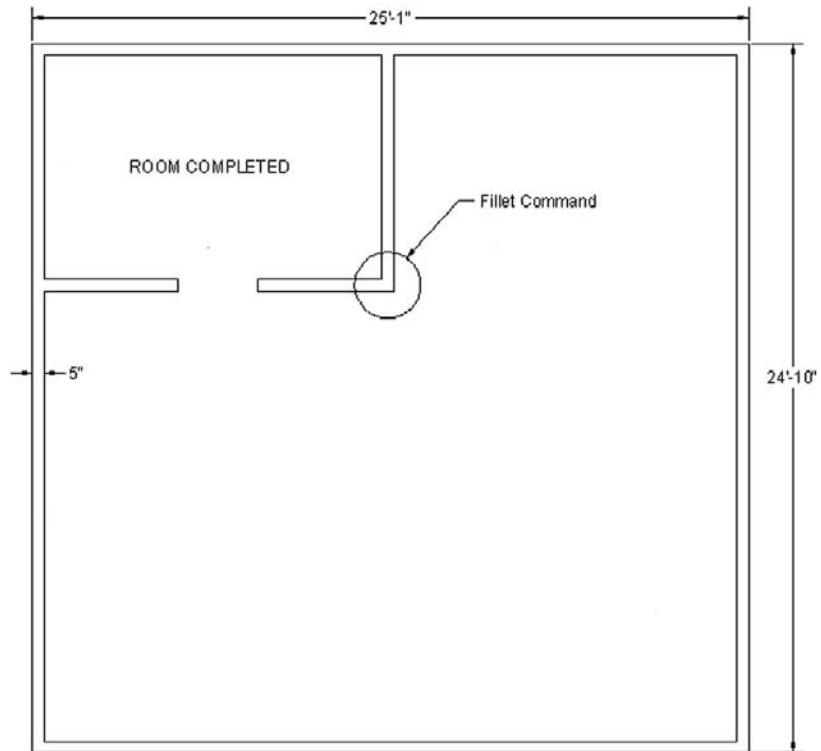

FIGURE 3.14
11. Trim out the extra line where each inner wall meets the main wall. Figure 3.14 shows you what you should see so far (be sure to ask your instructor if something is not working out).